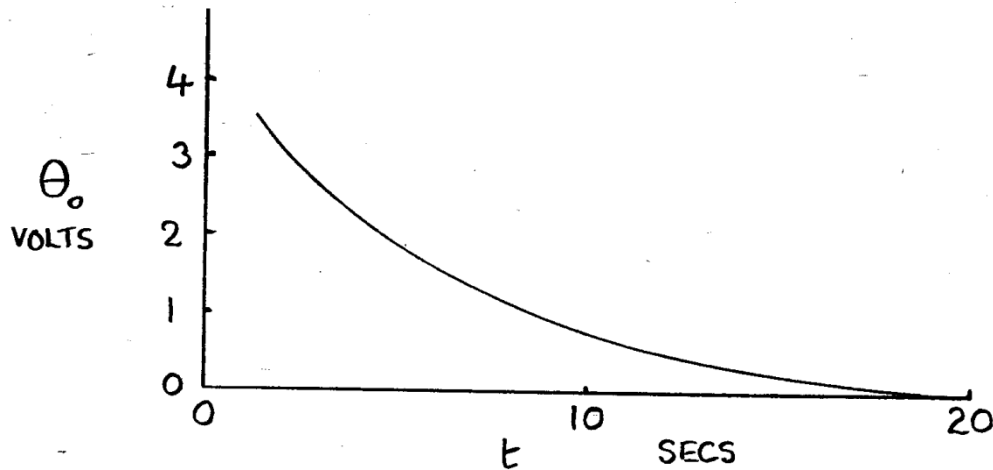

Fig. 1 Impulse response of an electrical system.
1. A unit impulse of 1 volt second is applied to an electrical system. From the response record shown in Figure 1 determine the transfer function of the first order system. Note that the initial part of the response has been deleted because it was considered that it had been distorted by the recorder dynamics.